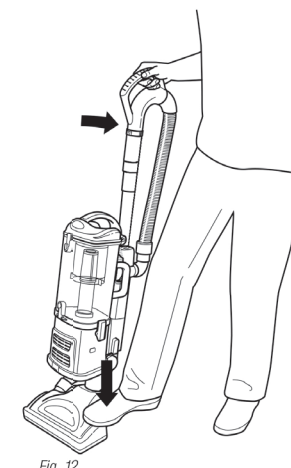

Fig. 12
- Gently press the floor nozzle down with your foot while you grasp the handle and tilt it back towards you. (Fig. 12)